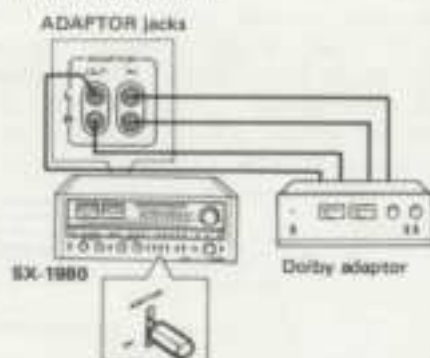

Fig. 26
1. Connect the Dolby adaptor to the ADAPTOR jacks (OUT, IN), as shown in Fig. 26.